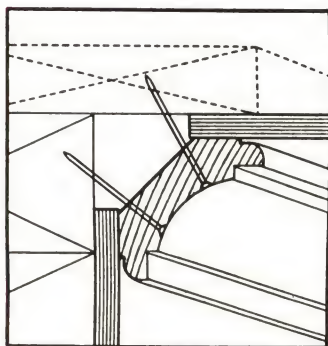

FIGURE 1
**PANEL APPLICATION** — Apply ceiling panels first. Allow for 1/4" space between all panels. At angle of ceiling and sidewall, leave sufficient space so that when applying cornice, nails can be driven into framing through space between panels, without nailing into edge of either ceiling or sidewall panels, as shown in Figure 1 at left. Wall panels should also be spaced to allow for proper nailing of inside corner moulding. See Figure 2.